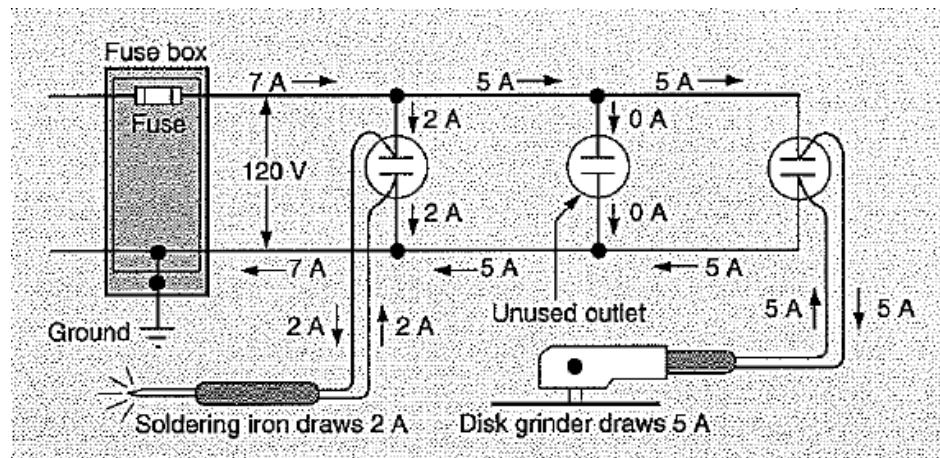

Figure 1.2: Every Complete Path Can Conduct Current
- 1-9 A circuit that supplies 2 A to a soldering iron and 5 A to a grinder must supply a total of 7 A. The current is divided as shown in Figure 1.2. If an electric heater is added to the circuit and it draws an additional 10 A, the total current increases to 17 A. The larger current due to the additional load will blow a 15 A fuse in the circuit.